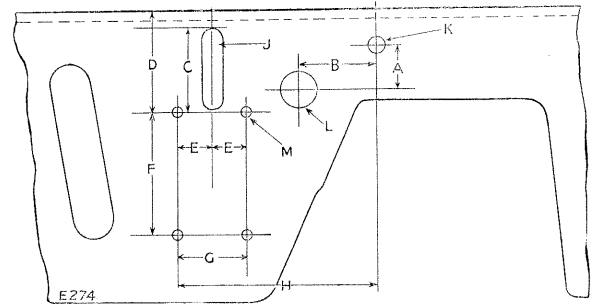

Fig. T-18A—Drilling heel board for selector unit
23. Mark off and prepare the positions for fitting the hydraulic control valve and the selector lever operating the P.T.O. selector unit as illustrated at Fig. T-18A.